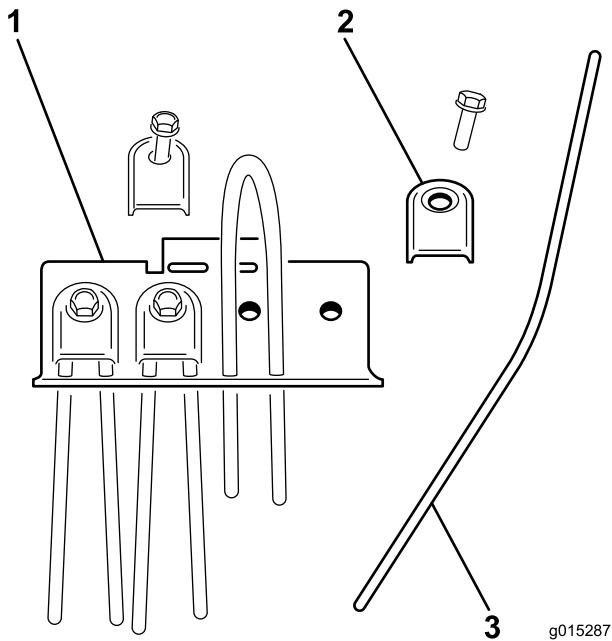

Figure 32
1. Remove the tine retainer and slide the damaged tine out (Figure 32).